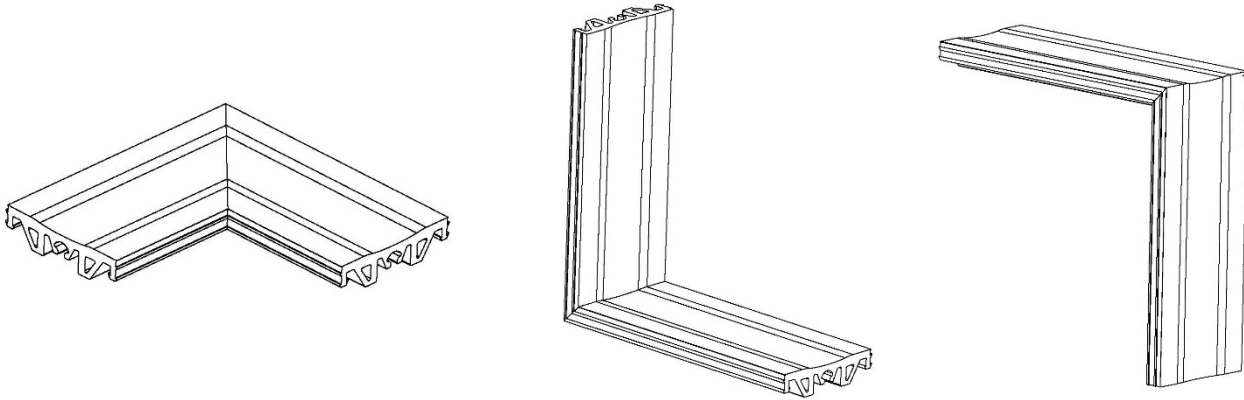

Figure 4
4. Check the splices after the adhesive has cured and reapply adhesive as necessary. Allow 15 minutes prior to installing seal. It typically takes 24 hours for adhesive to fully cure and achieve proper working strength. Ensure that the splice of the seal is not within 2” of a joint in the aluminum extrusion. **See Figure 4**